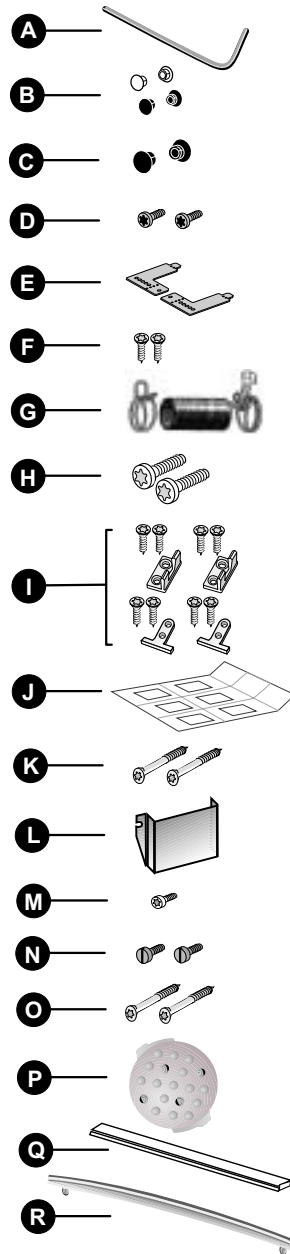
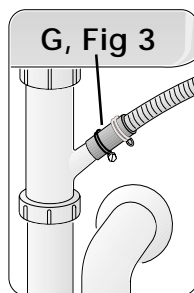

Figure 3
Figure 14
Accessory Parts for your model dishwasher will come in one or more plastic bags. Check to make sure that the parts supplied for your model are all there. See Figure 3. If any parts are missing, stop the installation and contact your dealer immediately.
- Drive Mounting Screws (see Figure 3) through the holes in the brackets. See Figure 10A or 10B.
- Use the hose clamps and rubber connection hose (Figure 3) to connect the drain hose to the sink, disposer or air gap (Figure 14).